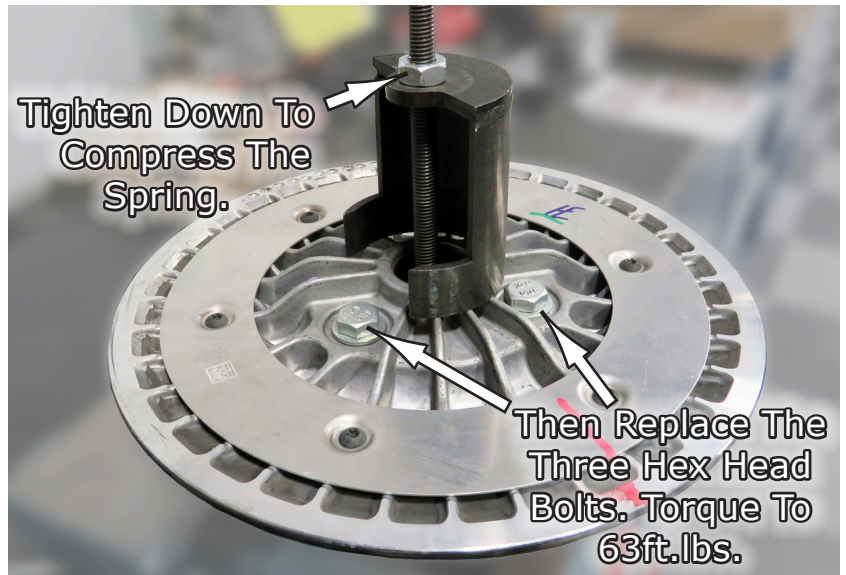

Fig.16
16. Now Compress the top down to compress the spring, and replace the three Hex Head Bolts **using Blue Loc-Tite**, and **torque to 63ft.lbs.** See **Fig.16.**